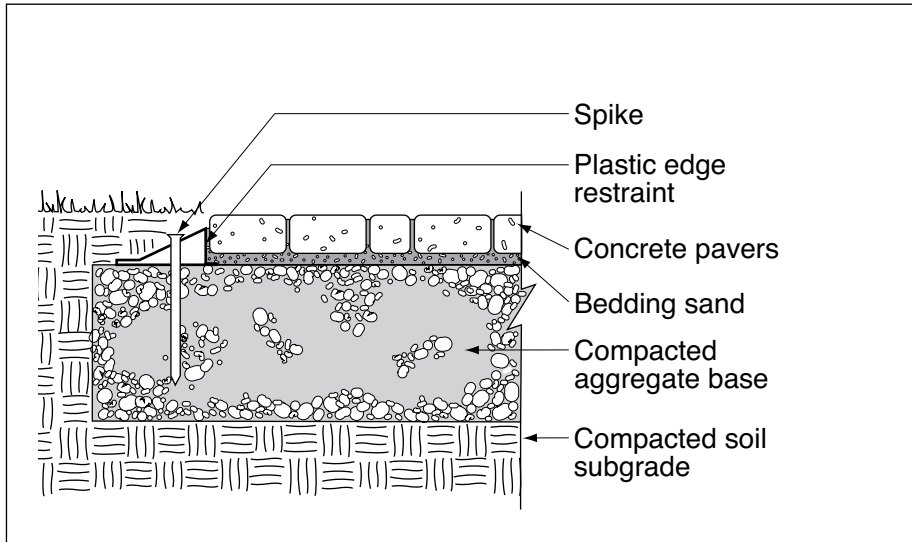

Figure 6. Plastic edge restraint.
**Plastic** edging installs quickly and will not rust or rot. Plastic edging should be specifically designed for use with pavers. It can be used with light duty residential and commercial applications, depending on the design. It should be firmly anchored into the compacted aggregate base course with spikes (See Figure 6). The spikes should penetrate well into the aggregate base. Spikes do not need to penetrate the bottom of the base. Consult the manufacturer’s literature for the recommended size and spacing of the spikes.